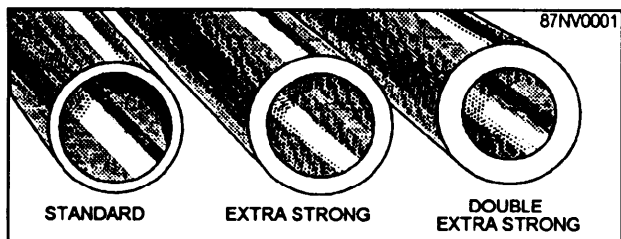

Figure 15-1.—Wall thickness designations.
You may have seen pipe identified as STANDARD (Std), EXTRA STRONG (XS), and DOUBLE EXTRA STRONG (XXS). These designations also refer to wall thickness. Figure 15-1 shows the relative wall thickness of pipes having the same NPS (OD). Note that the ID is reduced as the wall thickness is increased. Pipe is manufactured in a number of different wall